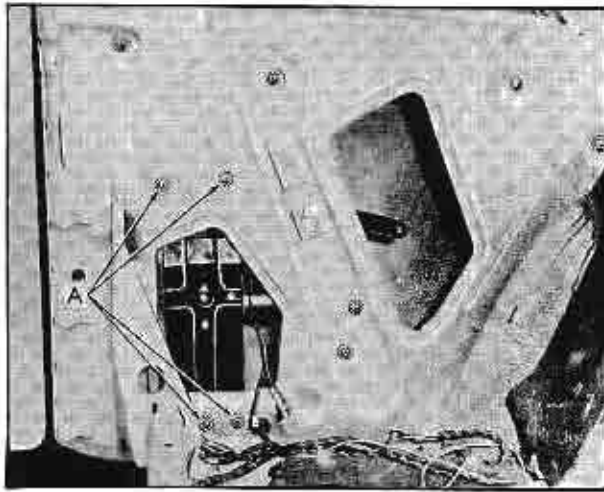

Fig. 3-48 Rear Quarter Window Regulator Removal (6237)
2. Disconnect regulator motor wires (on cars so equipped) and remove regulator attaching screws "A", Fig. 3-48.